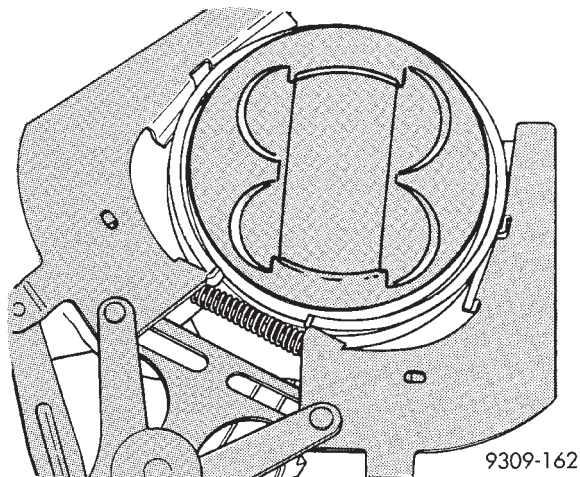

Fig. 14 Upper and Intermediate Rings—Installation
(8) Install upper side rail first and then the lower side rail.
(9) Install No. 2 piston ring and then No. 1 piston ring (Fig. 14).